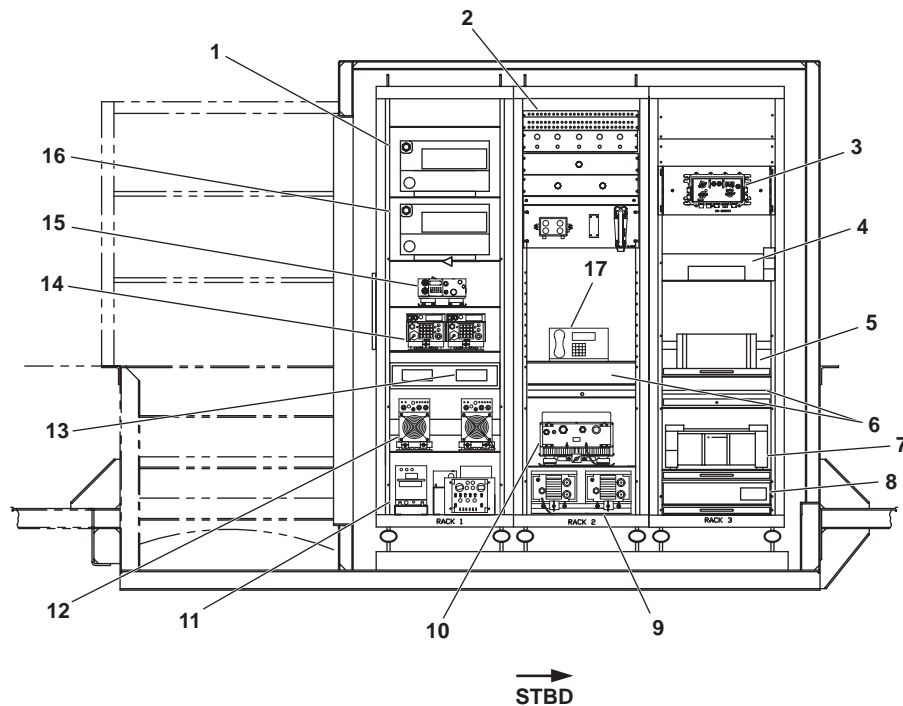

Figure 9. Radio Room Forward Bulkhead (Radio Racks)
1. AN/VRC 103A (figure 9, item 1). The AN/VRC 103A is the tactical radio providing voice and data capability in the 30 to 518 MHz range.
2. DC distribution panel (figure 9, item 2). The dc distribution panel contains circuit breakers for the 24 Vdc communication components located in the radio room.
3. CD-82/VRC (figure 9, item 3). The CD-82-VRC is the interface between the tactical radios and the VICS.
4. Fleet 77 (figure 9, item 4). The Fleet 77 provides satellite communication capability for the vessel.
5. Printer/fax (figure 9, item 5). The printer/fax prints output from the computer and can fax items for transmission.
6. Laptop computers (figure 9, item 6). The laptop computers are used to generate display messages in the C4ISR system.
7. TS-21 (figure 9, item 7). The TS-21 is a tactical secure fax machine.
8. UPS (figure 9, item 8). The UPS provides an uninterrupted power supply for the radio room gear.
9. Power supplies (figure 9, item 9). The power supplies provide power for the AN/VRC 103 radios.
10. Power amp (figure 9, item 10). The power amp is a component of the tactical radios.
11. Identify Friend or Foe (IFF) transceiver (figure 9, item 11). The IFF transceiver permits receipt and transmission of identifying signals.
12. AM 717 (figure 9, item 12). The AM 717s are the power amp and pre-amp for the Line of Sight Tactical (LST) 5D radios.
13. VDC-300 (figure 9, item 12). The VDC-300 is a secure data controller.
14. LST 5D (figure 9, item 14). The LST 5D is a line of sight tactical radio system.
15. AN/PRC 150 (figure 9, item 15). The AN/PRC 150 is a is an HF/VHF tactical radio system.
16. AN/VRC 103B (figure 9, item 16). The AN/VRC 103B is the tactical radio providing voice and data capability in the 30 to 518 MHz range.
17. Secure Telephone Unit (STU) (figure 9, item 17). The STU provides a means of secure landline telephone communication.